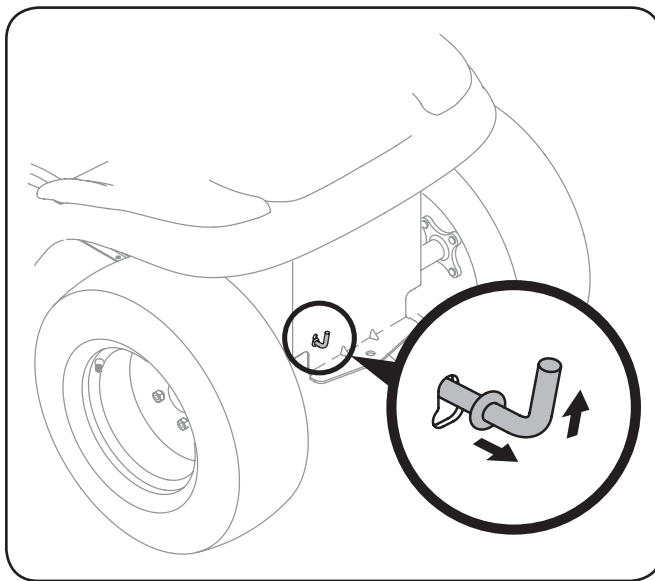

Figure 3-1
1. Locate the hydrostatic bypass rod in the rear of the tractor. See Figure 3-1.